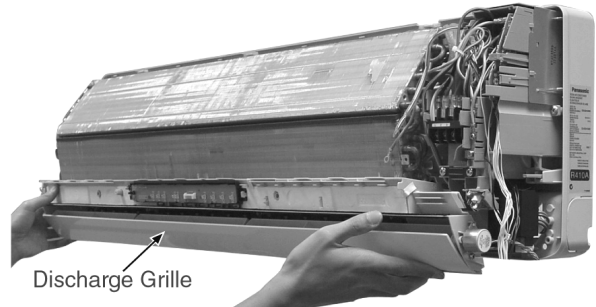

Fig. 6
2. Pull out the Drain Hose from outlet to remove the Discharge Grille. (Fig. 6)